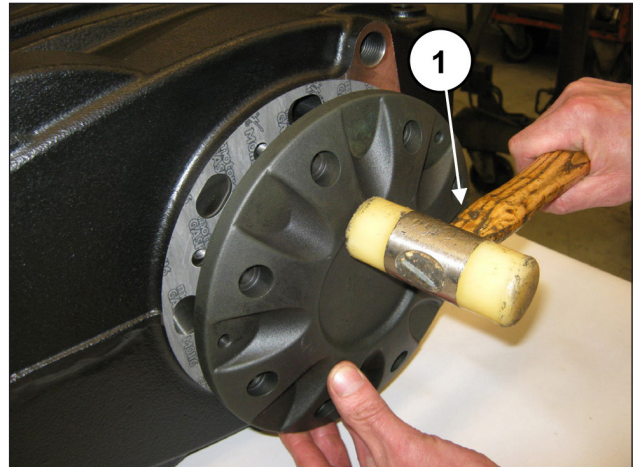

Fig. 59
Assemble the bearing cover (and relative seal) using an extractor hammer (pos. ①, Fig. 59)